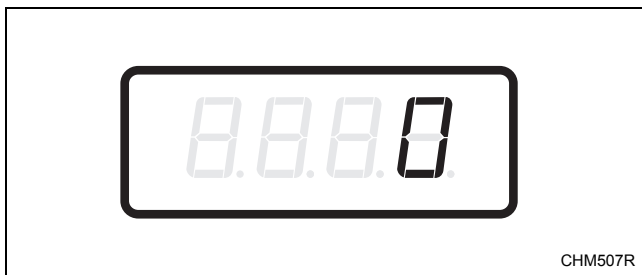

Figure 15
4. When “AtS4” appears in the display, press the START (enter) keypad. There are five digits in the Perm Press Hot Vend Price. The fifth digit will appear in the display and will flash one (1) second on, one (1) second off. Refer to *Figure 15*.